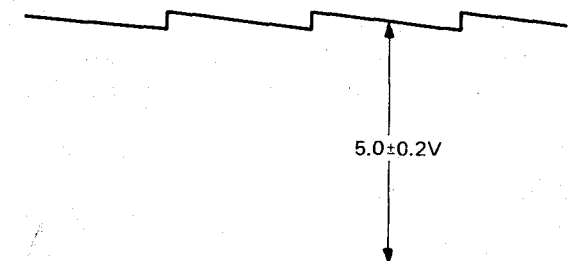

Figure 74.
2. Adjust R7710 and R7711 so that the output of TP-713 has waveform as shown in Fig. 74.